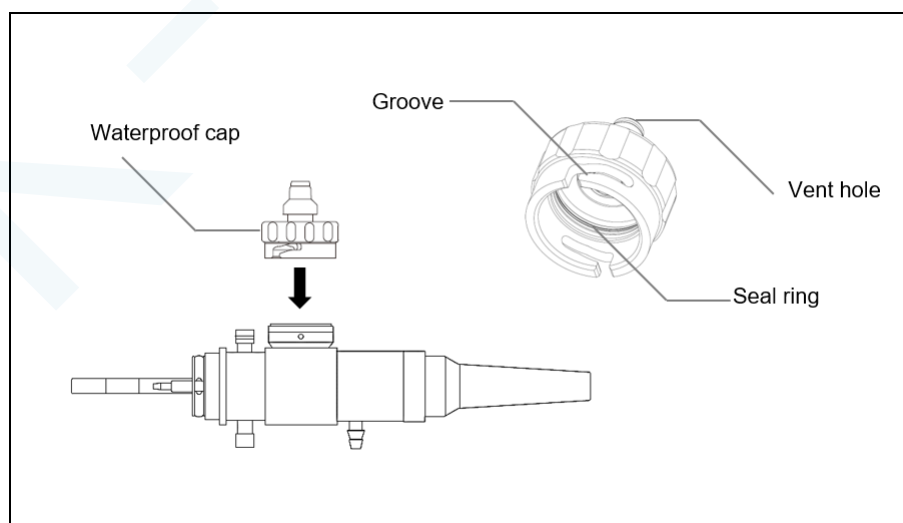

Figure 7.9
3. Ensure that there is no water outside the vent connector of the waterproof cap. Put the waterproof cap on the electrical connector of the light guide connector, and connect the connector cap of the leak tester to the vent connector of the waterproof cap through the connecting tube (Figures 7.9 and 7.10).